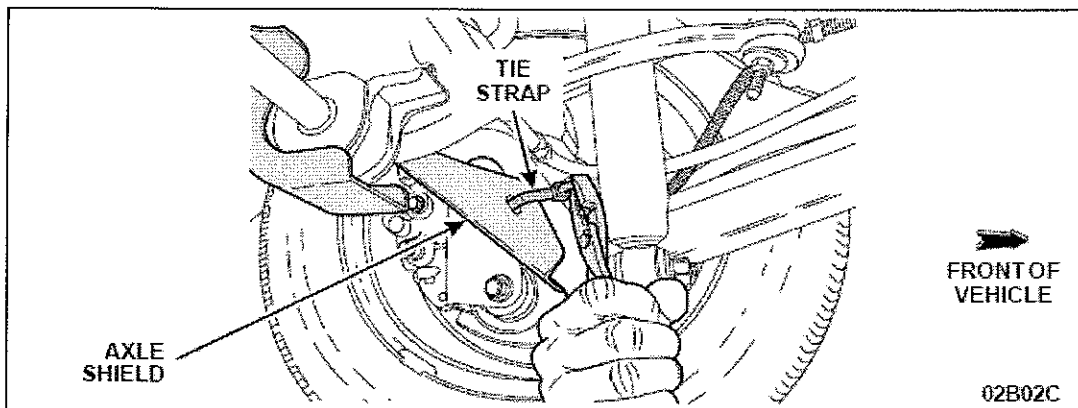

FIGURE 3
On 1998 to 2002 model year vehicles, install one (1) tie strap on each shield to secure it to the shock absorber lower mount bracket as illustrated. If necessary, use pliers and LIGHT force to engage the locking feature of the tie strap. **DO NOT STRETCH THE TIE STRAP UNNECESSARILY.** See Figure 3.